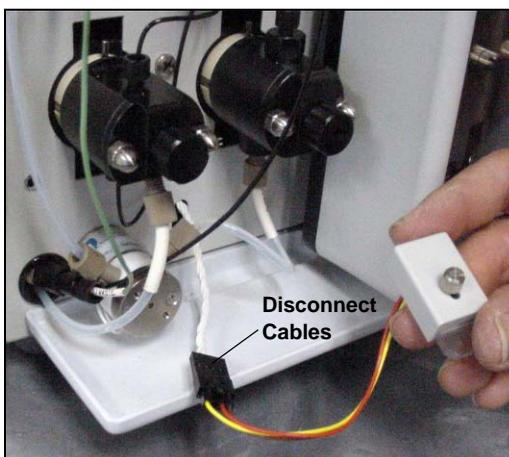

Figure 5-26. Leak Sensor Cable
5. The cable attached to the leak sensor is connected to a matching cable inside the ICS-1500. Continue pulling the cable until the connectors for the two cables are outside of the panel (see Figure 5-26).